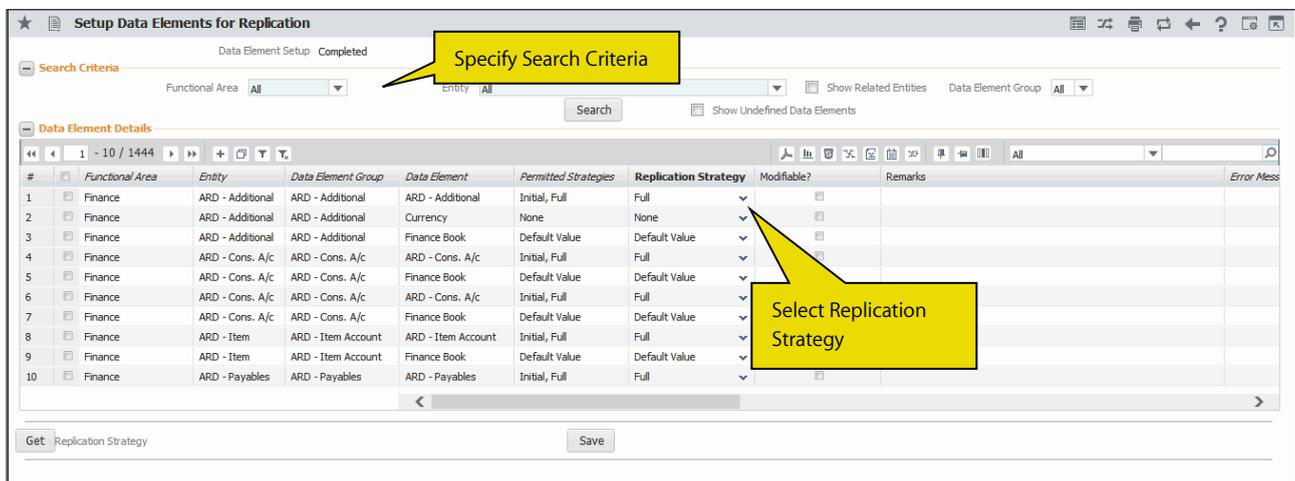

Figure 2.4 Setting data elements for data replication
1. Select the Setup Data Elements for Data Replication activity under the Central Data Replication Configurator business component. The **Setup Data Elements for Data Replication** page appears. See *Figure 2.4*.